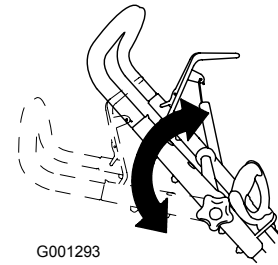

Figure 7
2. Move the upper handle to the desired position (Figure 7).